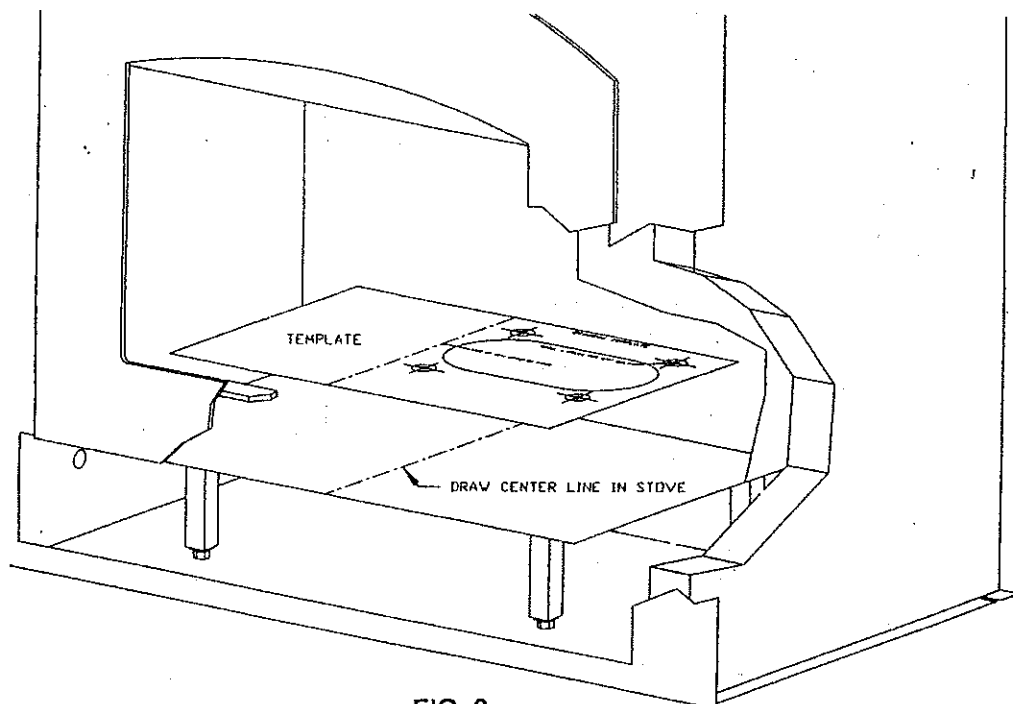

FIG. 2
(3) Using horizontal line marked 60', Outlet *A* supplying 30 cubic feet an hour requires 1/2 inch pipe. Outlet *B* supplying 25 cubic feet an hour requires 1/2 inch pipe. Section 1 supplying outlets *A* and *B*, 55 cubic feet an hour required 1/2 inch pipe.
B) PREPARE THE OPENING. See Figure 2.